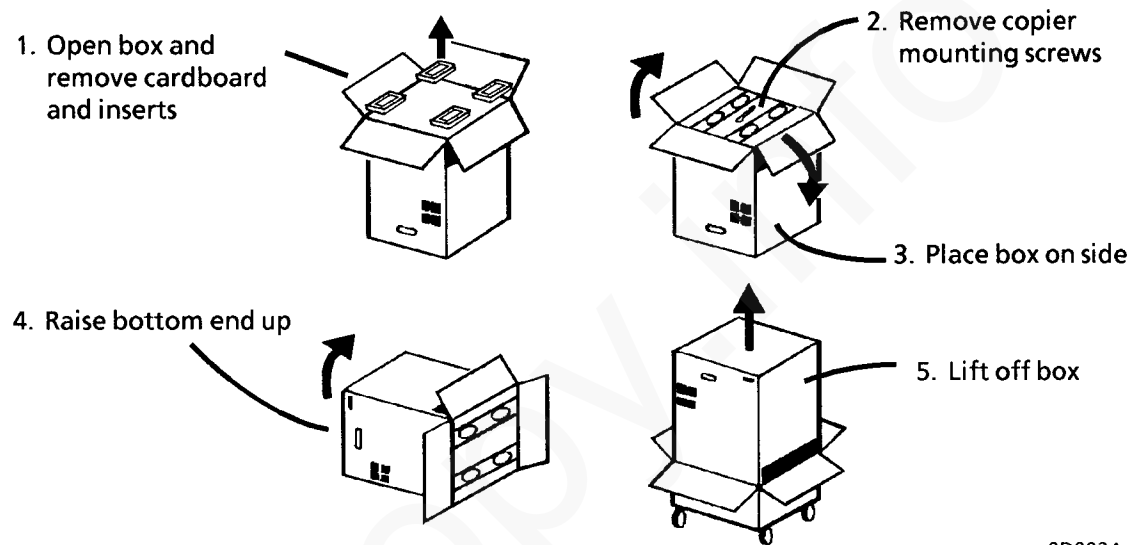

Figure 1.
1. Unpack the cabinet stand (Figure 1).